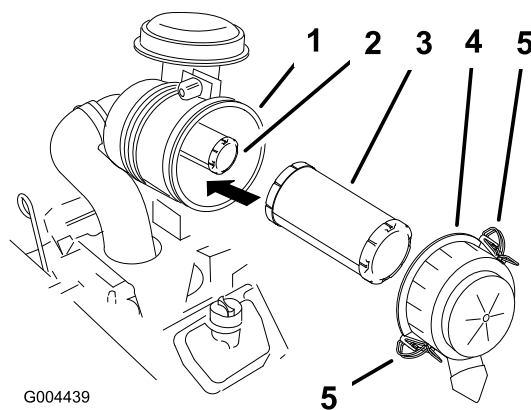

Figure 35
3. Clean around the air cleaner to prevent dirt from getting into the engine and causing damage. Release the latches on the air cleaner and pull the air cleaner cover off of the air cleaner body (Figure 35).
4. Clean the inside of the air cleaner cover with compressed air (Figure 35).
5. Gently slide the primary filter out of the air cleaner body (Figure 35). Avoid knocking the filter into the side of the body.
1. If installing new filters, check each filter for shipping damage. Do not use a damaged filter. (Figure 35).
2. If the safety filter is being replaced, carefully slide it into the filter body (Figure 35).
- Carefully slide the primary filter over the safety filter (Figure 35). Ensure that it is fully seated by pushing on the outer rim of the filter while installing it.
- Install the air cleaner cover with the side indicated as **UP** facing up and secure the latches (Figure 35).